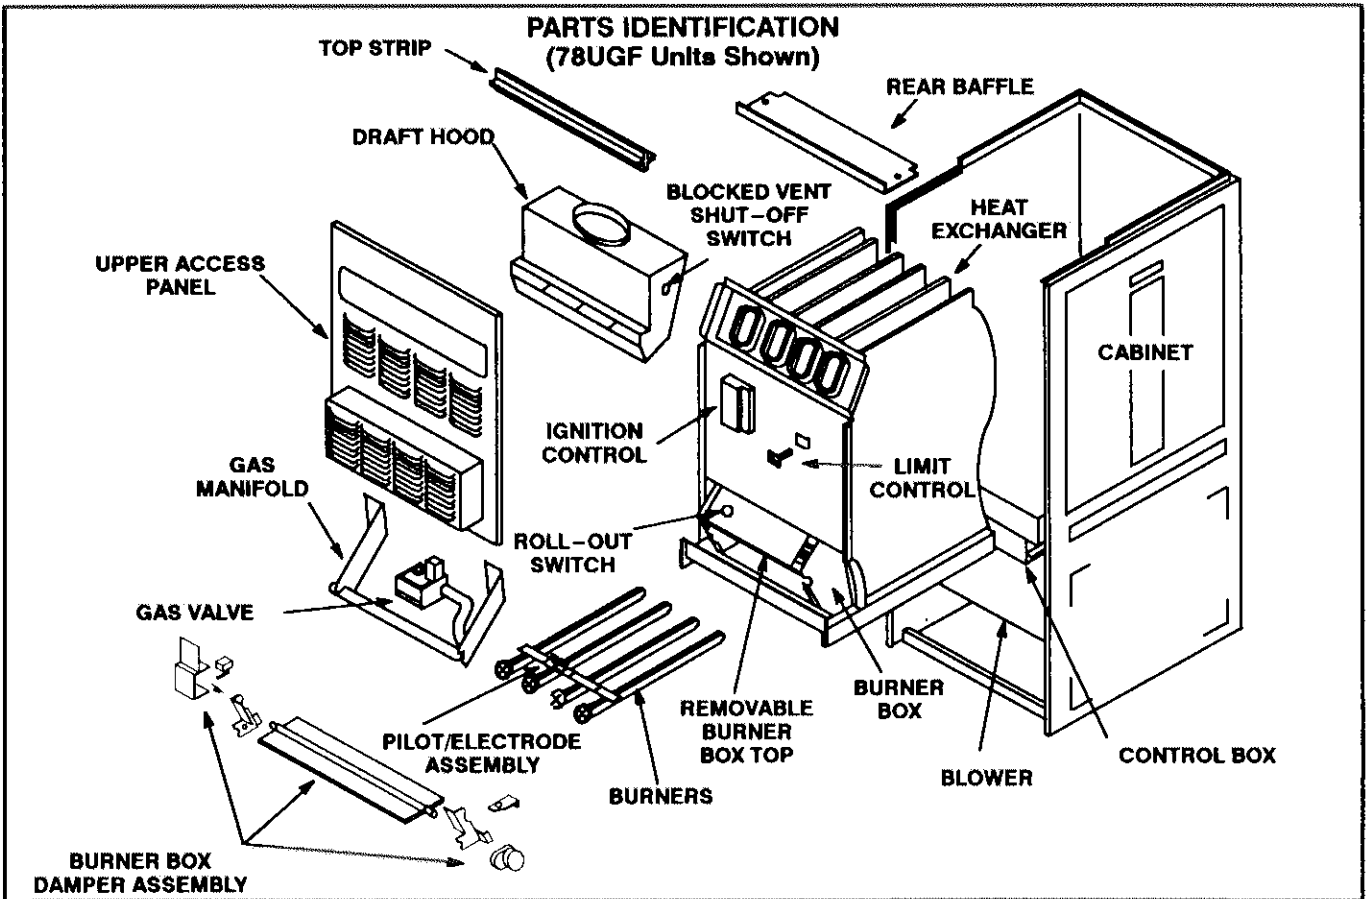

FIGURE 32
- 1- Turn off both electrical and gas power supplies to furnace. Refer to figures 32 and 33 during disassembly and reassembly procedures.